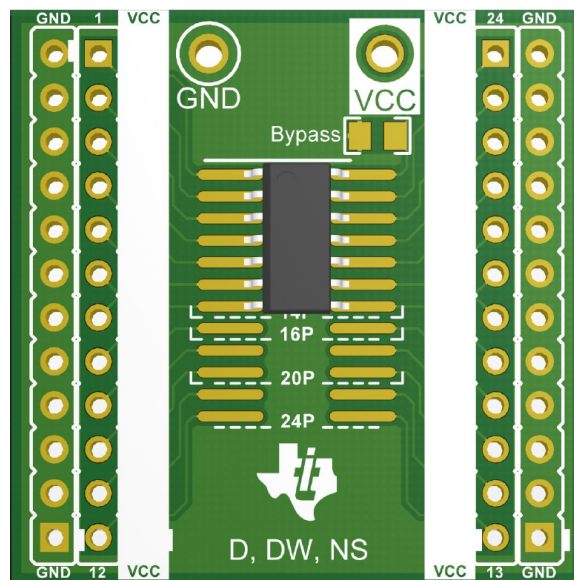

Figure 2. 14-Pin Device in D Package
3. Ensure device V_{CC} pin is connected to the bypass capacitor. If pin 1 of the device is connected to pin 1 of the footprint then it will be connected correctly. Figure 2 shows an example of a 14-pin device in the D package placed correctly on the EVM.